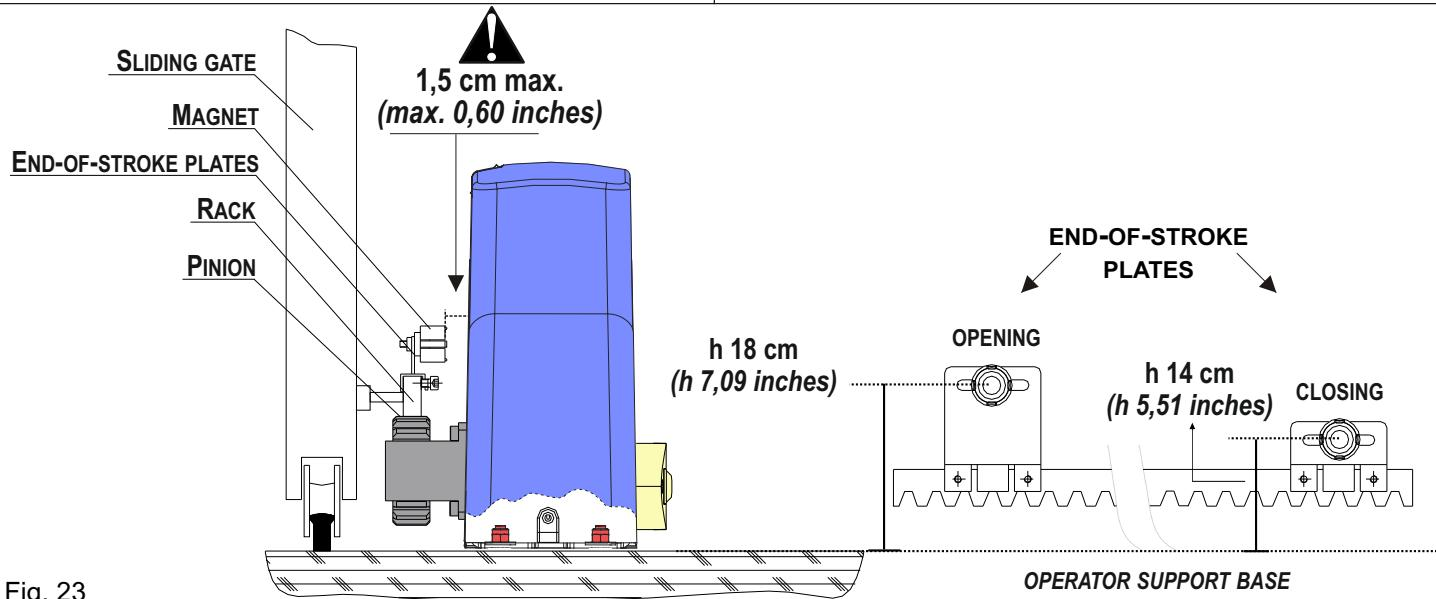

Fig. 23
- Install the end-of-stroke plates as shown in Fig. 23. The magnets on the end-of-stroke plates act on the limit switch inside operator to control the gate position